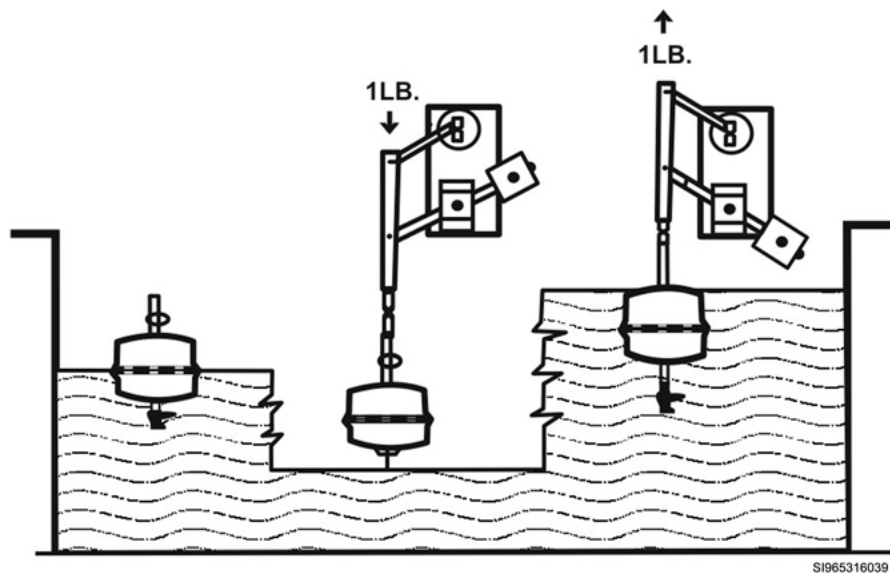

Figure 3-22. Floats.
The lifting force of a liquid on a body immersed in it is called buoyancy. The law of buoyancy, discovered by Archimedes about 420 before Christ (BC), states that a body immersed in a liquid is buoyed up by a force equal to the weight of the liquid displaced by it. It follows, then, that when a body floats on a liquid with a portion protruding above the surface of the liquid, the weight of the liquid displaced is equal to the weight of the floating body (fig. 3-22). A float must be constructed so that the weight of its volume is less than or equal to the weight of its volume of liquid. In other words, if a float weighs 1 lb. and displaces $\frac{1}{2}$ lb. of liquid, only half of the float will be submerged; but if the displaced liquid equals 1 lb., then the float will be completely submerged before it starts to float. A float must be designed for the liquid in which it floats.